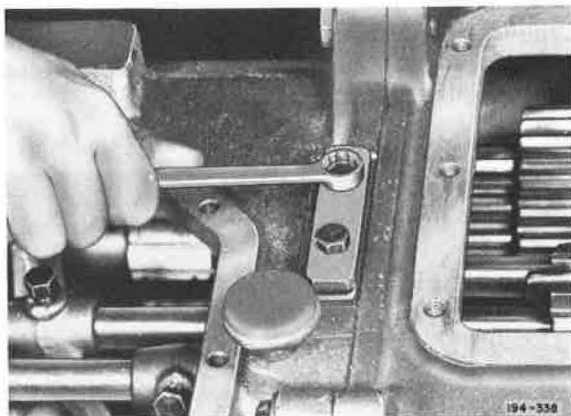

Figure 5-234. Removing Capscrews
13. Remove shifter rail poppet ball cover capscrews and cover. See Figure 5-234.